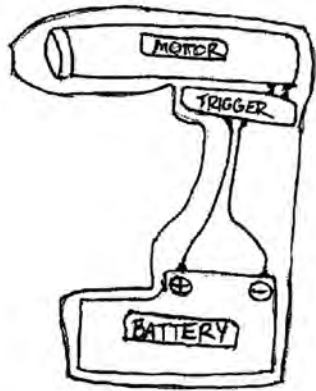

Fig. 1
2. Open drill: Take your sacrificial drill, and remove the screws to open it up if they are accessible. Most cordless drills have three basic sections: 1) the battery, which is connected to (2) the trigger, which is connected to (3) the motor. (Figure 1) Cut your wires off between the battery and the trigger, just below where the wires attach to the trigger. Remove the trigger and motor. If you can't open your drill, don't worry. Just remove the battery and proceed to step 3.